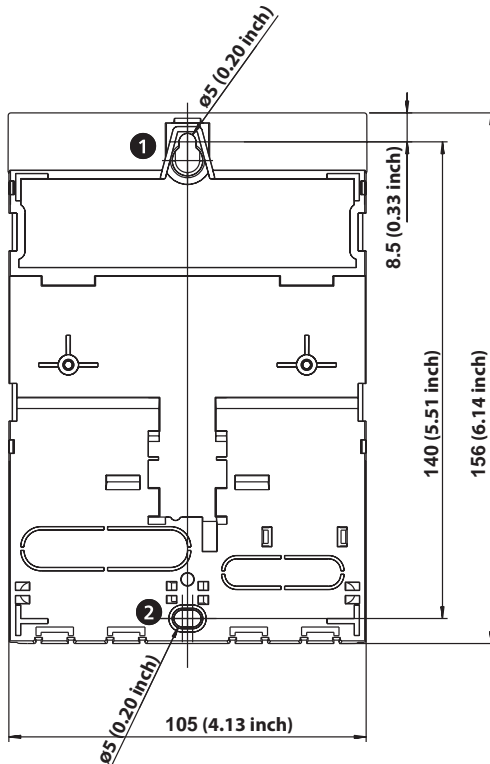

Fig. 2: Rear side of the controller with the upper ❶ and lower ❷ mounting holes.
2. Screw in the screw for the upper mounting hole ❶ (Fig. 2) until the screw head has a clearance of 5 ... 7 mm (0.20 ... 0.28 inch) from the mounting surface.
4. Mark the position of the lower mounting hole ❷ through the casing.
6. Hang the controller by the upper mounting hole ❶ and then fasten the screw in the lower mounting hole ❷.